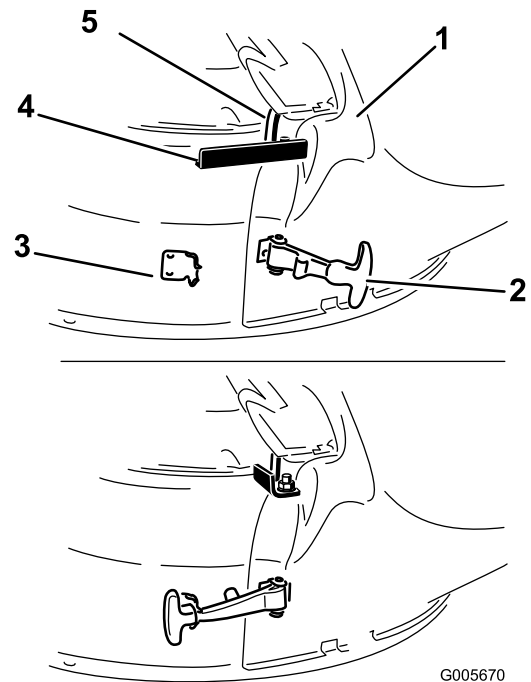

Figure 26
3. Secure the chute to the deck by hooking the flexible latch on the chute to the retaining clasp welded on the mower deck to the rear of the opening (Figure 26).
4. Fasten the retaining hook around the pivot rod to secure the chute into position (Figure 26).